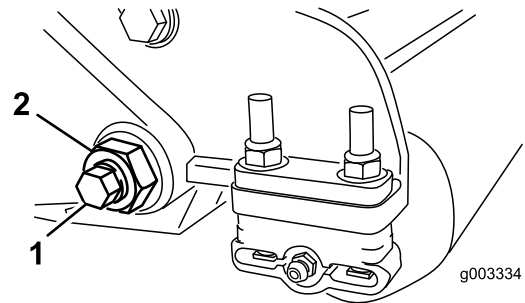

Figure 30
3. On each side of the machine, loosen the locknut securing the bedbar bolt (Figure 30).
4. Remove each bedbar bolt allowing bedbar to be pulled downward and removed from the machine bolt (Figure 30).